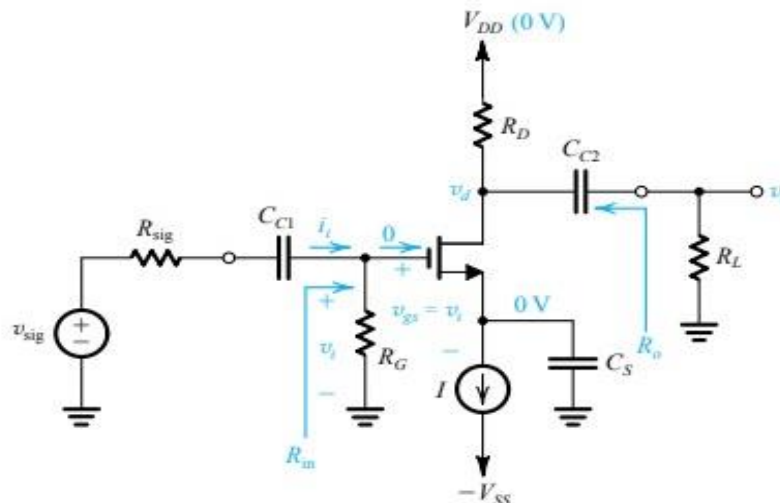

Fig.5: Common Source Amplifier
In the circuit of Fig.5 the source terminal is connected to ground via a bypass capacitor, the input voltage signal is applied between the gate and ground, and the output voltage signal is taken between the drain and ground, across the resistance. This configuration, therefore, is called the grounded-source or common-source (CS) amplifier.